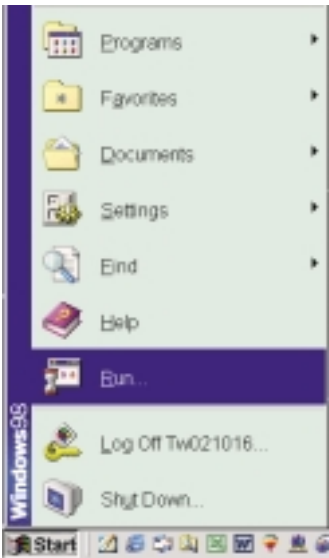

Fig. 4
- 2. Click Start, choose Run at start menu of Windows 95/98 as shown in Fig. 4.